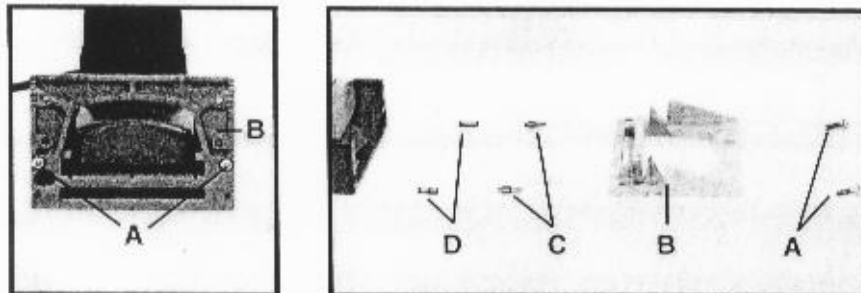

Fig.15
2. Use a Phillips screwdriver to remove two screws (A) Fig. 15, from the blade guard (B) Fig. 15.
NOTE: Once the two screws are removed, the blade guard will be free from machine releasing the two stabilizer pins (C) Fig. 15, and the two pressure springs (D) Fig. 15. Exercise care to prevent loss of these small parts.